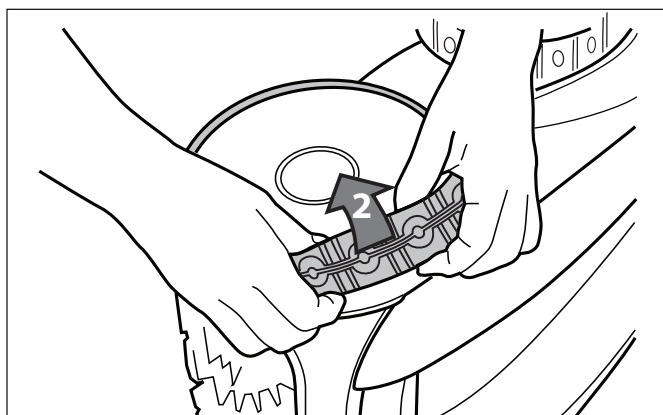

Figure 37. Remove the Old Tire
- Remove the old tire as shown in Figure 37.